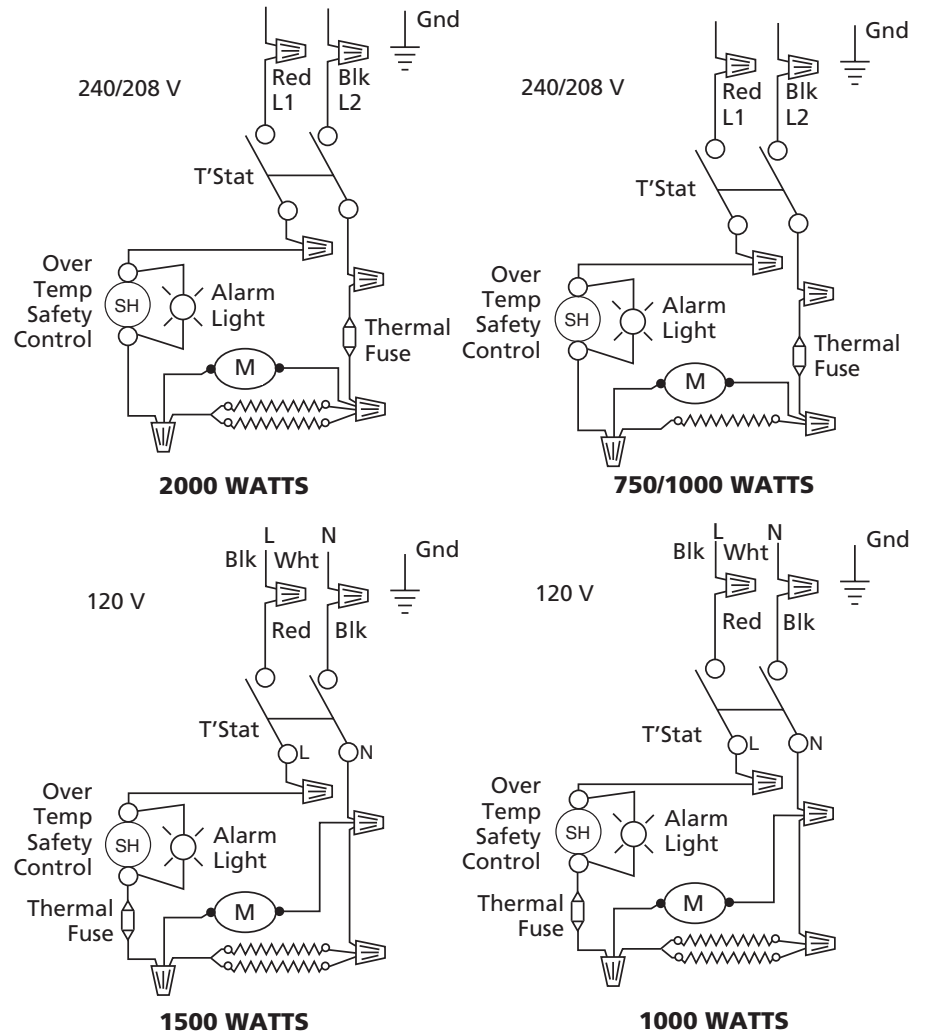

Figure 4
- Connect field supply wiring to heater pigtail leads (see Figure 4, page 3). Connect field ground wire to green ground lead wire.